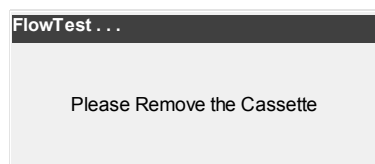

Fig. 7-27 Remove Cassette
- Remove the cassette (Fig. 7-27).